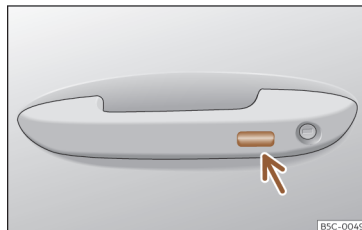

Fig. 90 Door handle: sensor surface.
- **OR** using the Keyless Access system (only locking): Press and hold the locking sensor surface  **Fig. 90** (arrow) on the door handle for several seconds to close the windows and the sunroof. If you release the sensor surface, the closing movement stops.
• Press and hold the locking sensor surface >>> Fig. 90 (arrow) on the door handle to close the sunroof. If you release the sensor surface, the closing movement stops.